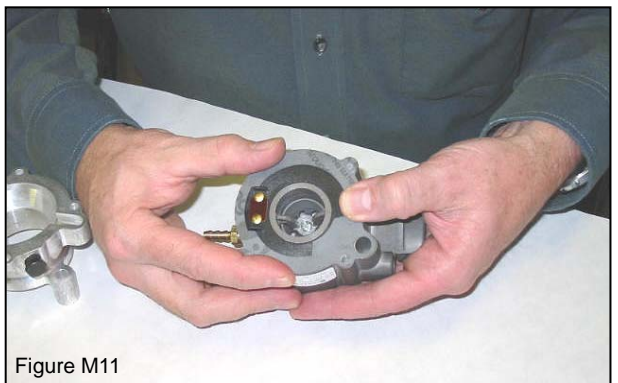

Figure M11
8. Place the mixer to throttle body gasket over the check valve plate (Figure M11). To properly install the gasket the hole for the idle port in the throttle adapter must be aligned with the idle port in the gasket.